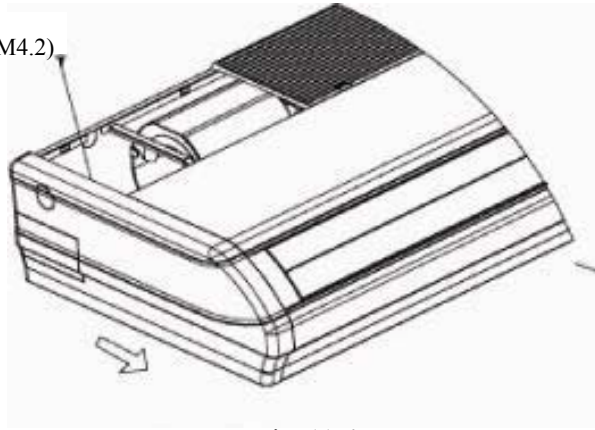

Fig. 11-4
2. Remove the side panel fixing screws by pulling it out at the front direction (arrow direction). (See Fig. 11-4)